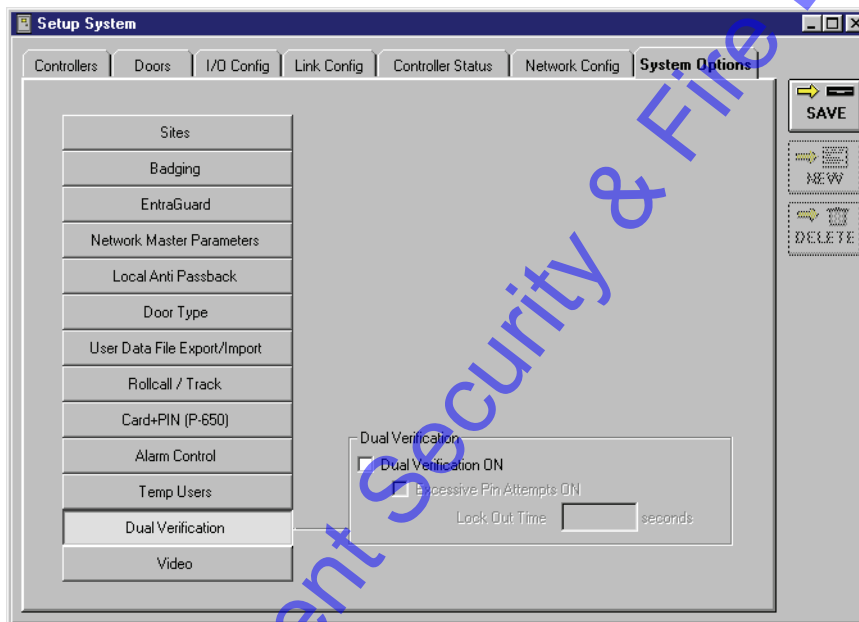

Figure 2-33: Dual Verification Field
1. From the System Options tab, click on the  button. The System Options window will reveal the Dual Verification field (see Figure 2-33).
2. If your system is not using Dual Verification, verify there is **not** a check mark in the Dual Verification ON box (see Figure 2-33).